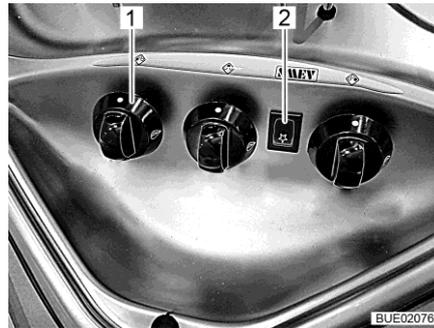

Fig. 228 Operating controls for gas cooker
- Turn the control knob (Fig. 228,1) on the burner you wish to use to the ignition position (large flame).
- Press lighting knob (Fig. 228,2). Ignition sparks are generated at the burner.